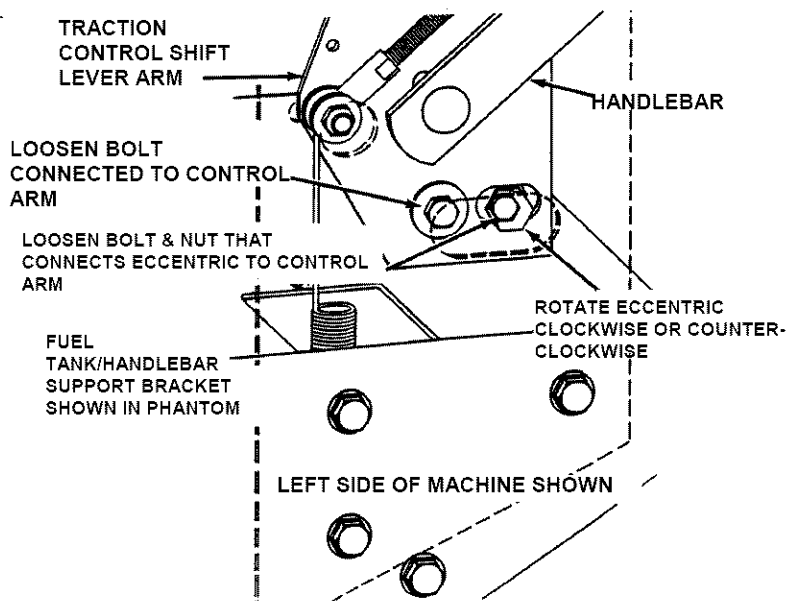

FIGURE 3.10
STEP 10: Wheel rotation will be stopped by adjusting the eccentric on the pump arms on the right and left pumps. Turning the eccentric slightly clockwise or counter-clockwise will synchronize the pump and traction controls for Neutral. See Figure 3.10. To turn the eccentric, first loosen the bolt in the pump control arm and the nut and bolt fastening the eccentric to the pump control arm. With both Traction Levers latched in Neutral, start engine. Turn eccentric slightly clockwise or counter-clockwise until wheels stop rotating. Tighten control arm bolts and eccentric nut and bolts. Check for wheel rotation. Repeat eccentric adjustment if needed.